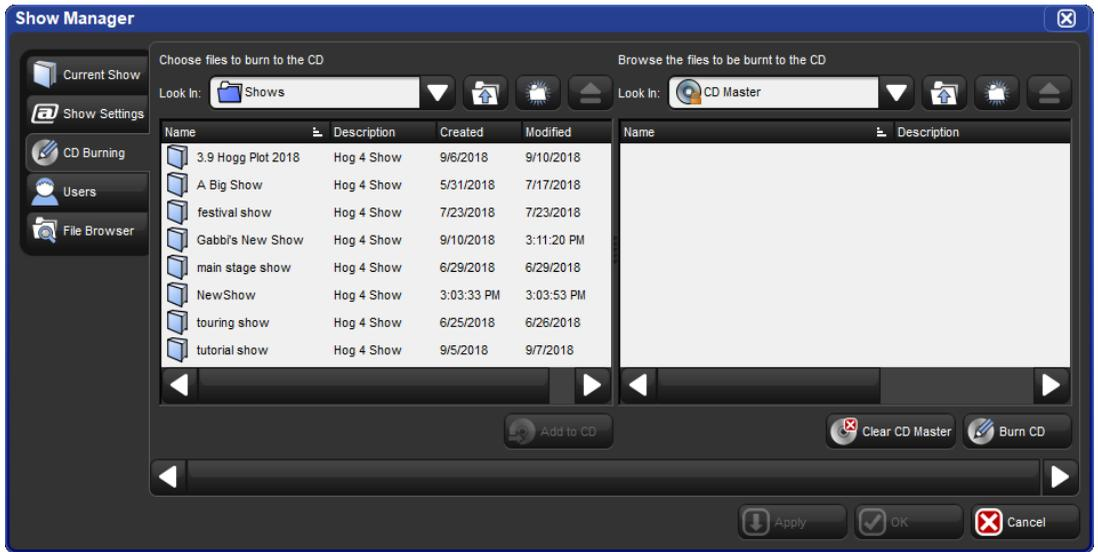

Figure 2.12. The CD Burning pane of the Show Manager window
1. Setup → Shows → CD Burning : see *Figure 2.12, "The CD Burning pane of the Show Manager window"*.